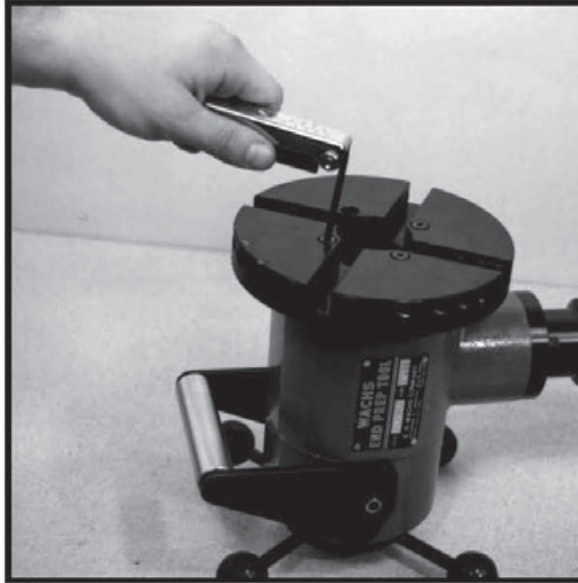

Figure 3-6.
2. Using the provided hex key set, remove the Rotating Head by loosening and removing the four-5/16-18 x 3/4" stripper bolts (Figure 3-6).